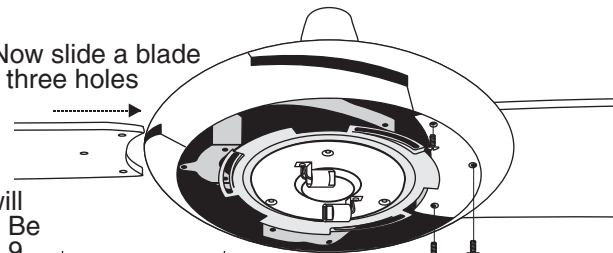

FIG. 9
- B.1. Note the side of the blade you want to show. Now slide a blade into one of the slots in the motor housing. The three holes should line up easily. See Left side of Fig. 9
2. Using the 3/16"-32x3/8" blade screws, three of each per blade, secure blade to motor. Repeat this procedure with the rest of the blades. You will have at least one screw left over; this is a spare. Be sure all of the screws are tight. Right side of Fig. 9